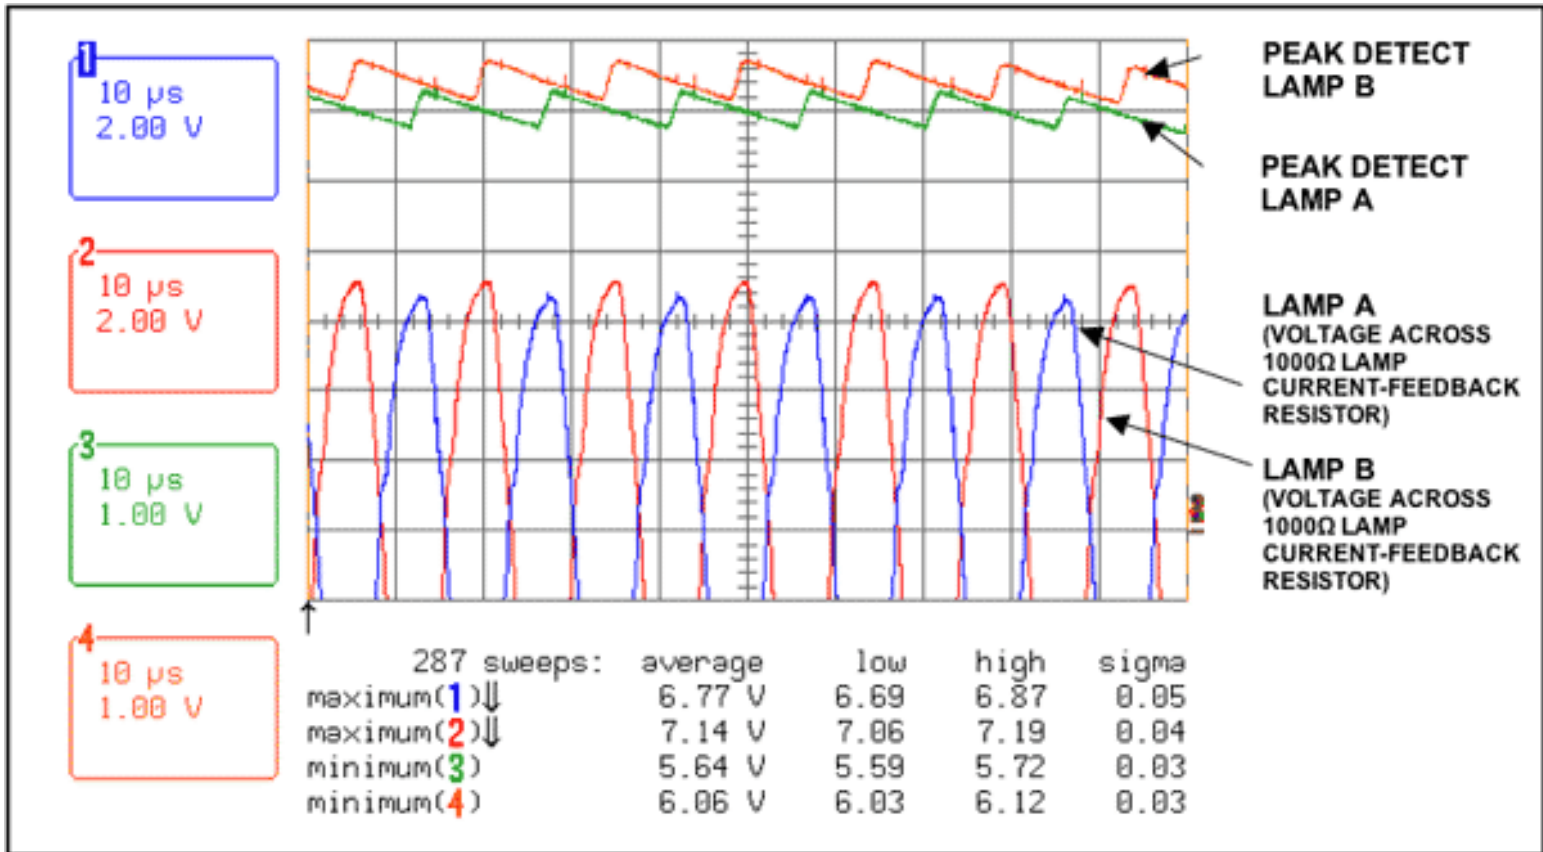
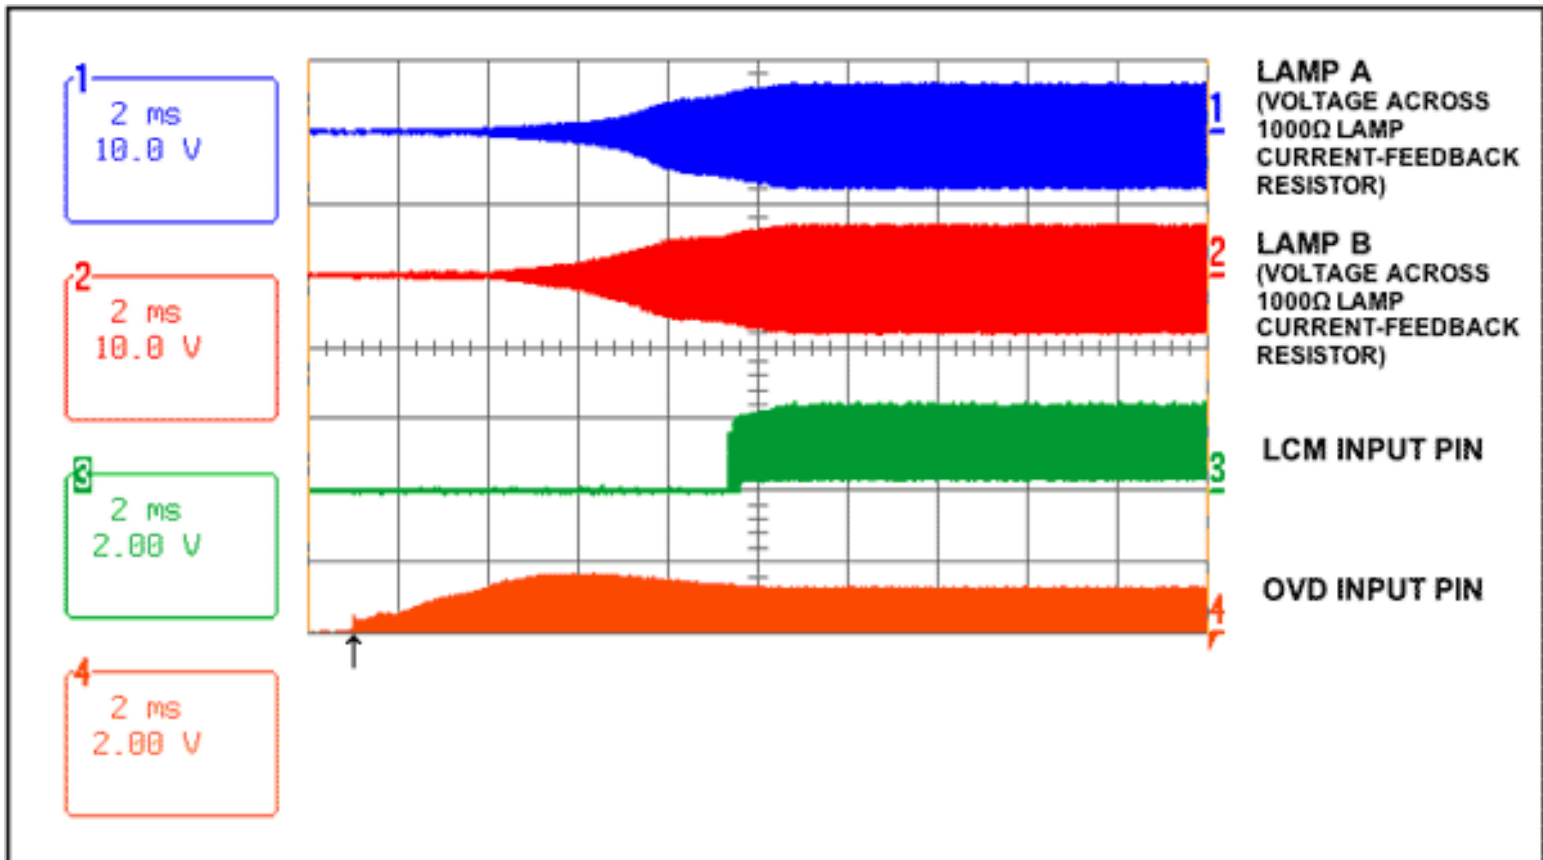

Figure 5. Peak detect signals.
Figure 6. Normal lamp strike.
**Figure 5** shows the peak detect signal as it appears at the input to the comparators. **Figures 6, 7, and 8** display a normal and abnormal strike event, as well as what occurs when a lamp goes open circuit.